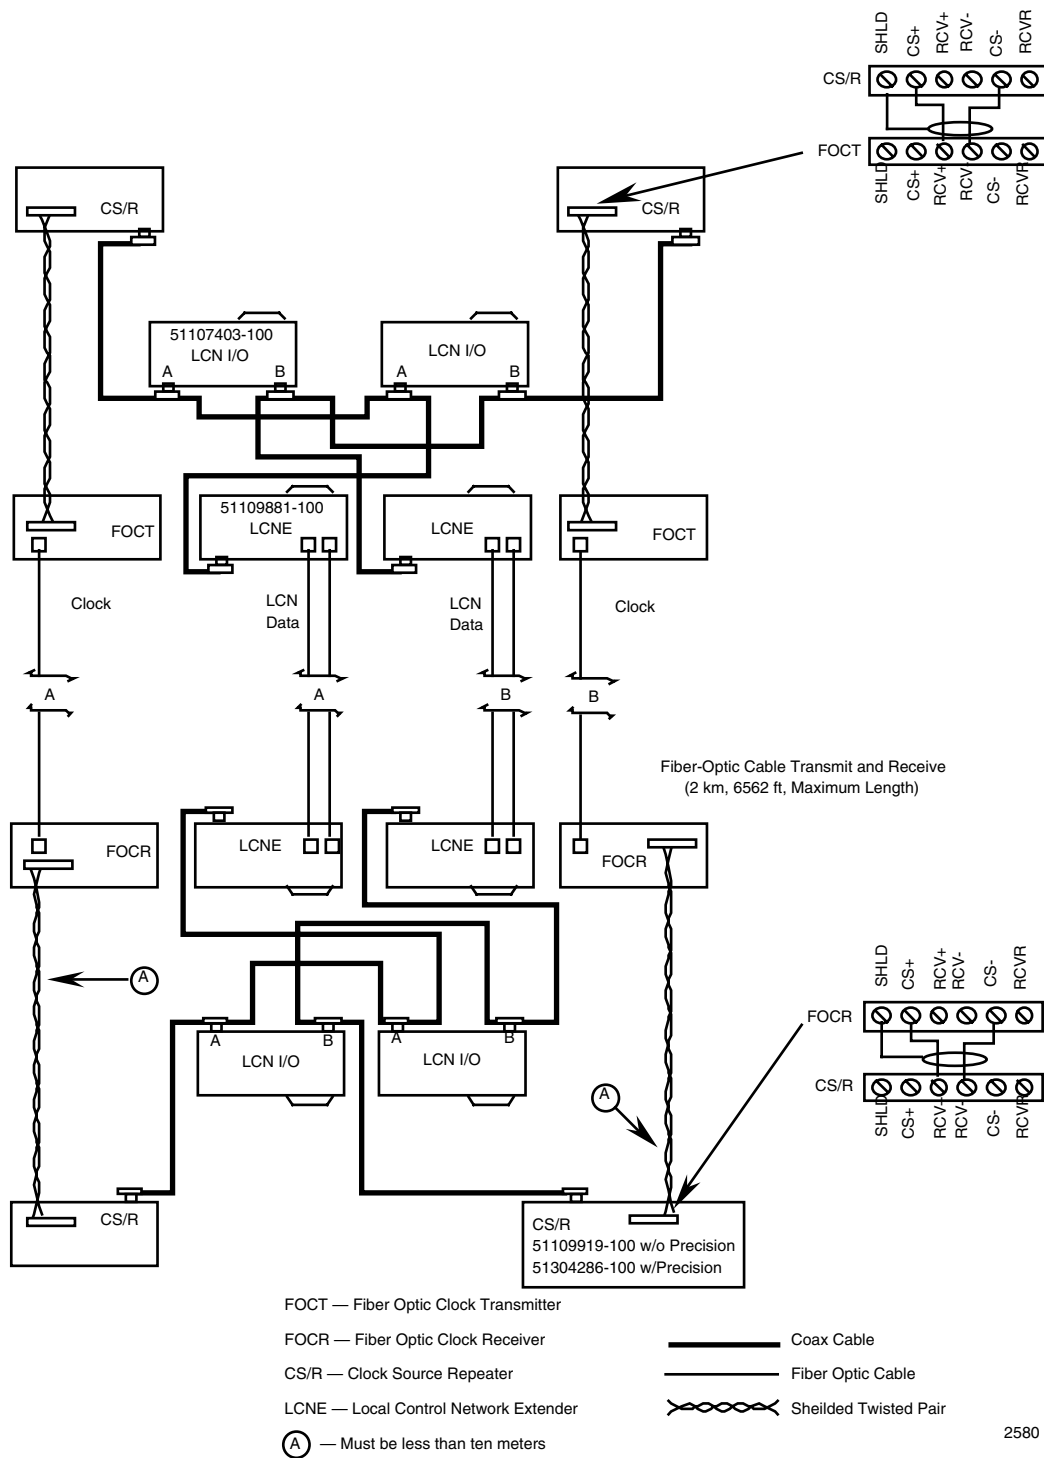

Figure 2 - LCN With Remote Segments
- Clock nodes must be located on the main segment (see Figure 2).